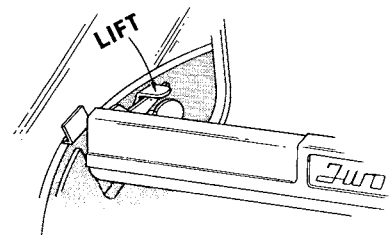

Figure 22.
2. Unlatch Upper Cabinet Lamp Assembly, *Figure 22*, by lifting lever. Pull left hand corner to disconnect A. C. plug and withdraw assembly.
Access to the 25 watt (33 inch) Daylight fluorescent lamp or starter is gained by first removing the Upper Cabinet Lamp Assembly, *Figure 22*,